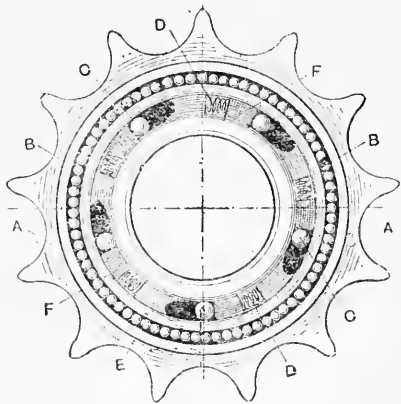

Fig. 9.—Roller or Friction-type Free-wheel Clutch; A, chain ring; B, balls; C, rollers; D, springs; F, followers
**Free-wheel Clutches.** — Sometimes the free-wheel clutch in the back hub gives trouble. This may simply mean that it is choked up with old and dirty oil, but as a rule, it is a sign that something has worn out. Don't take it to pieces until you have satisfied yourself by squirting in plenty of paraffin or petrol that the failure is not due to dirt or gummed-up oil. Often the trouble is simply a matter of weak springs, which can be replaced at trifling cost; or the friction rollers (*see* Fig. 9) may have worn badly, necessitating the purchase of new ones. In the more modern pawl and ratchet type (Fig.